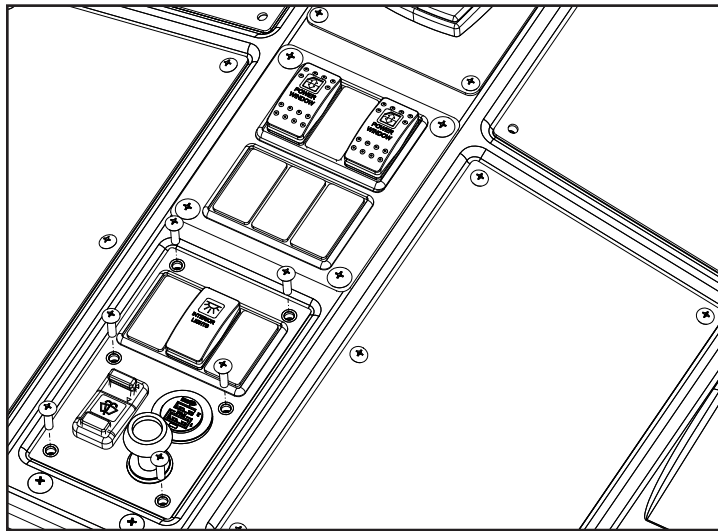

Figure 5
4. Remove the fasteners from the panel that holds the Interior Light Switch and set aside for reinstallation (see *Figures 5 and 6*).
Note: *Figures 5 and 6 represent the most common location and application. Due to production variations, your vehicle may vary from the illustrations.*